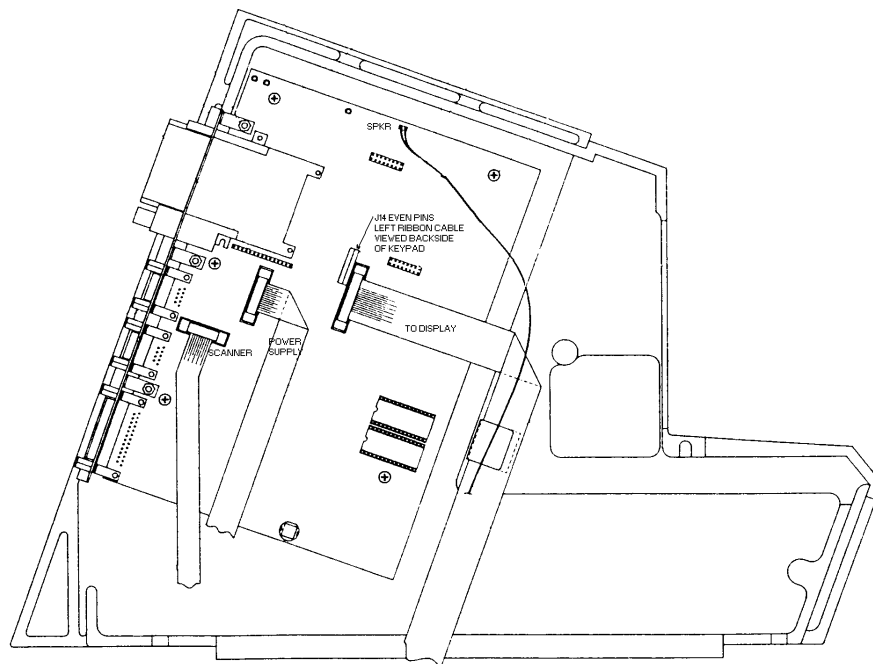

Figure 5-9 VIC Board Location
2. Disconnect the Power (P1), Scanner (J1), Printer (J13), Display (J15 or J10), and Speaker (J11) cables (see Figure 5-9).